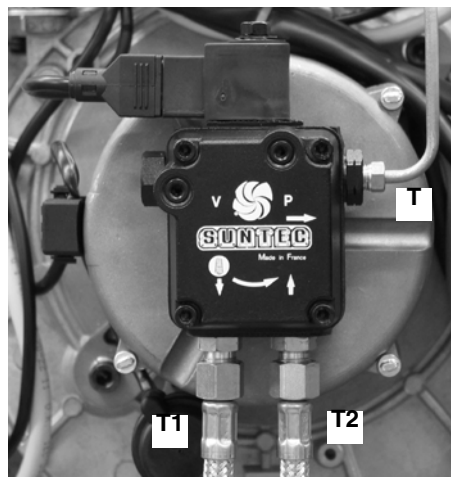

Fig. 38
- Slacken the light oil pipes **T1** and **T2** from the pump (Fig. 38).